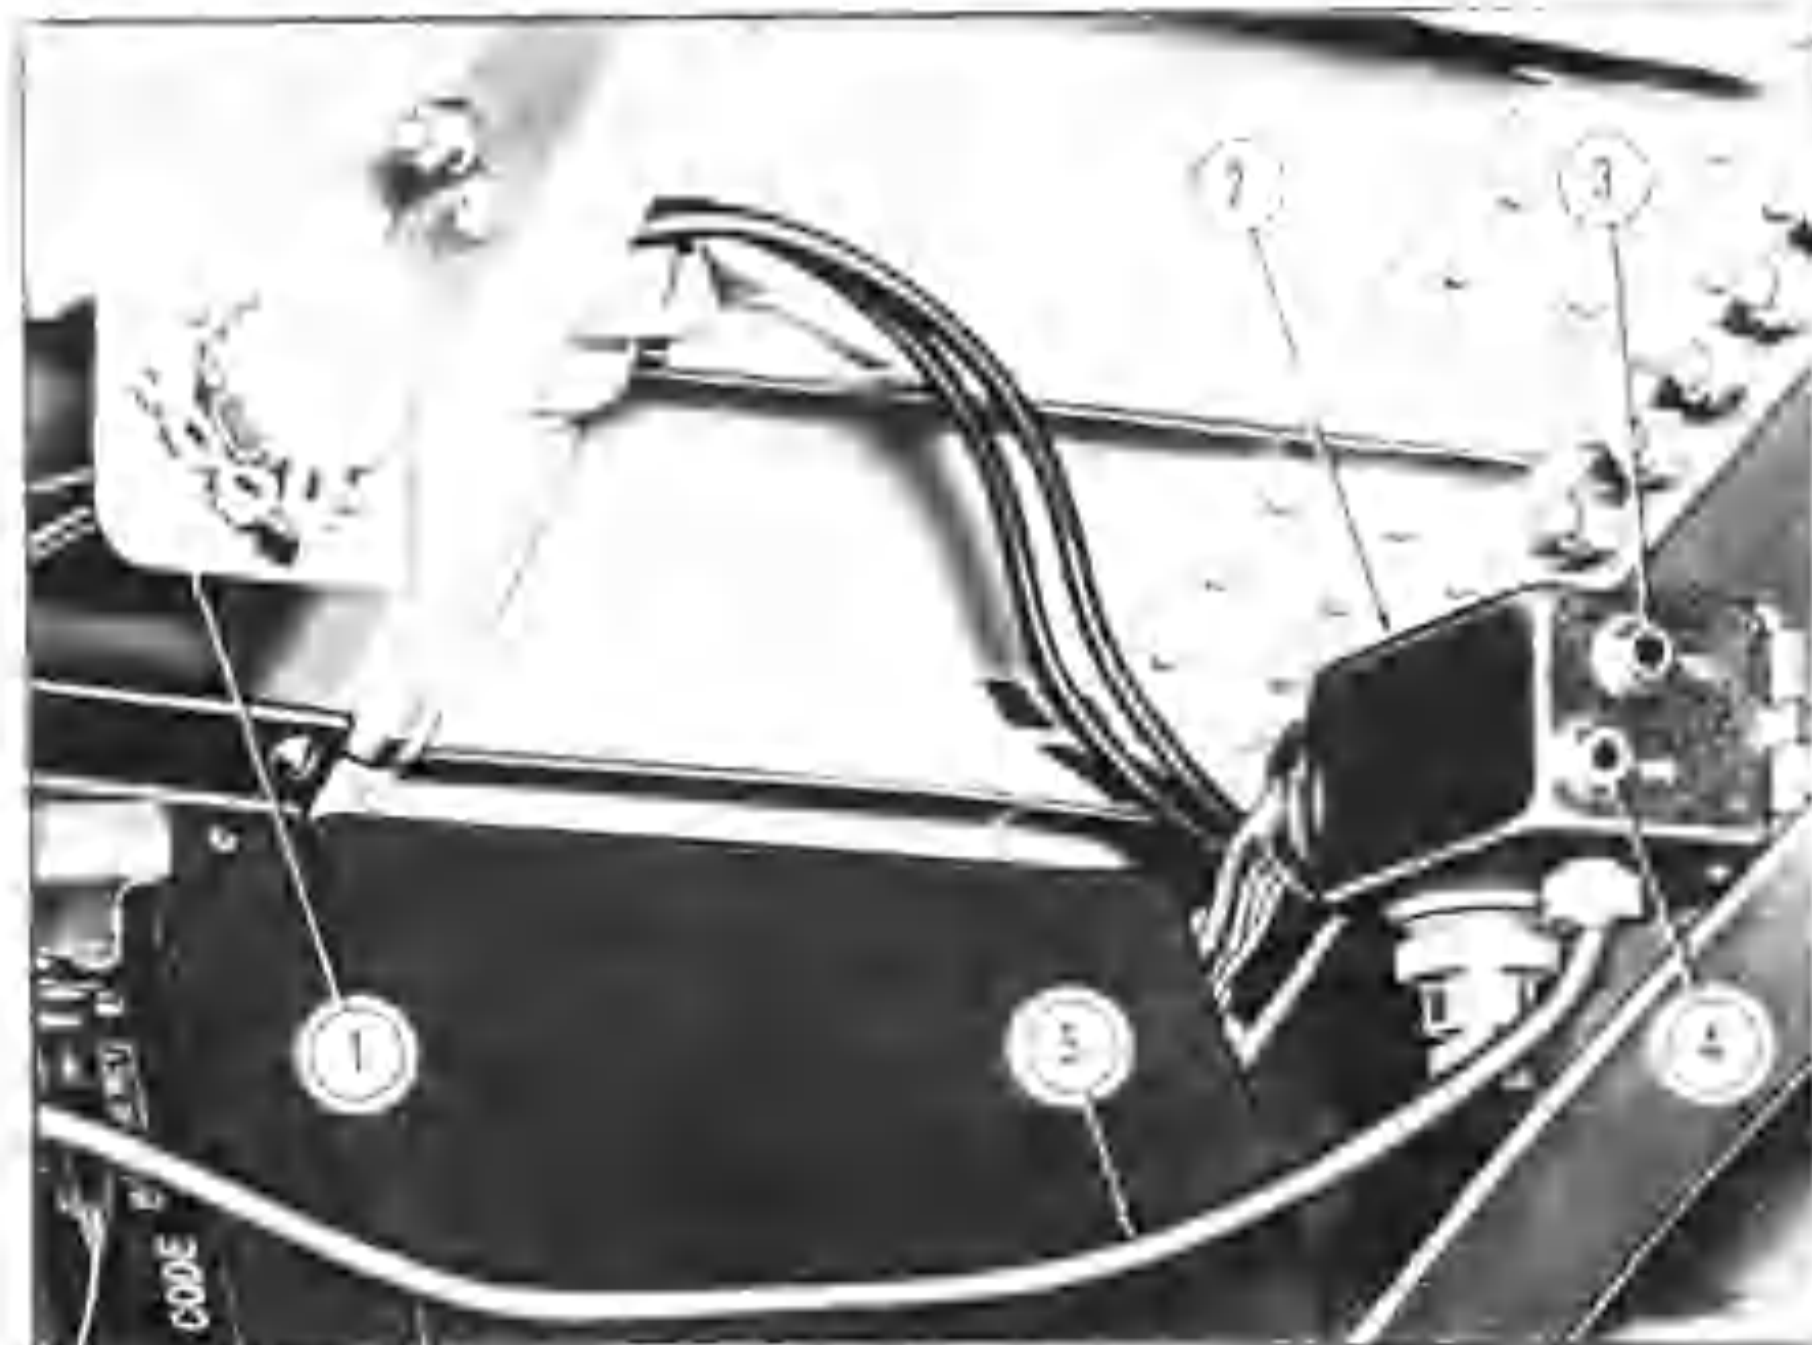

Figure 44 — Power and Radio Outlets
(See figure 44.)
(6) **POWER RECEPTACLE**. (See 1, figure 44.) — An electrically heated flying suit, or other electrical device, can be plugged into the receptacle above the right-hand control shelf. This receptacle, protected by a screw cover, is powered at all times that the main battery switch is on, except in the rare event that an overload has caused its circuit breaker to cut out.